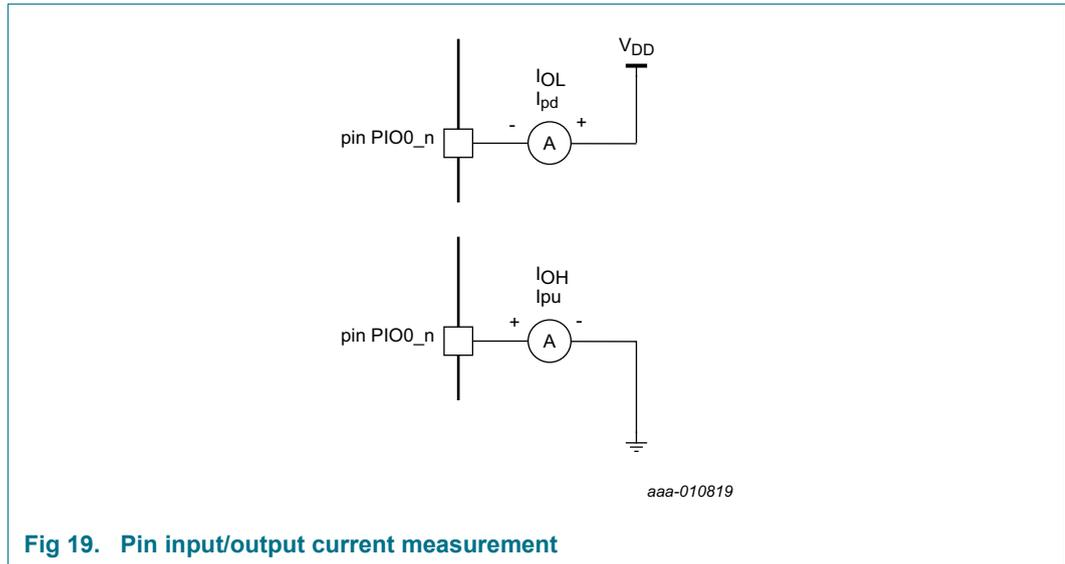

Fig 19. Pin input/output current measurement
- [4] Pull-up and pull-down currents are measured across the weak internal pull-up/pull-down resistors. See Figure 19.